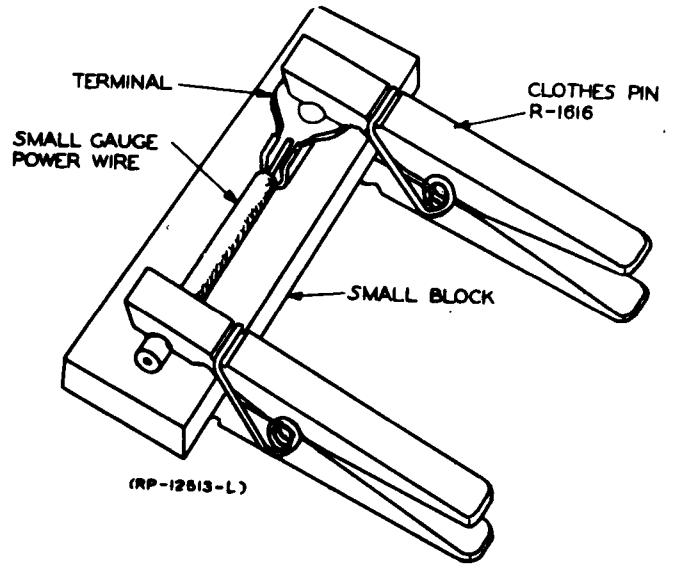

FIG. 8 JOB MADE SOLDERING BLOCK (PARS. 7.1, 7.3)
7.1 Skin wire ends to be soldered to terminal punchings long enough to fit into the entire length of the soldering channel but not long enough to interfere with the clamping nuts. See Figure 8. Insert tinned end of wire into channel of punching so that the insulation is flush with the punching.
terminal punchings may be held in position for soldering by a job made soldering block such as the one shown in Figure 8.